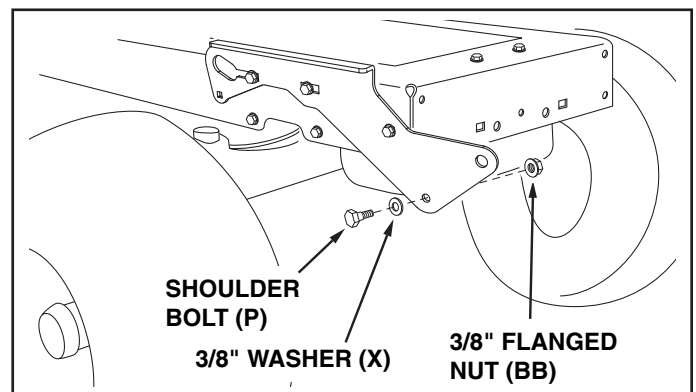

FIGURE 24 RIGHT SIDE VIEW
STEP 25: (SEE FIGURE 24)
- Assemble a shoulder bolt (P) and a 3/8" washer (X) to the outside of each side plate, securing them with a 3/8" flanged nut (BB).